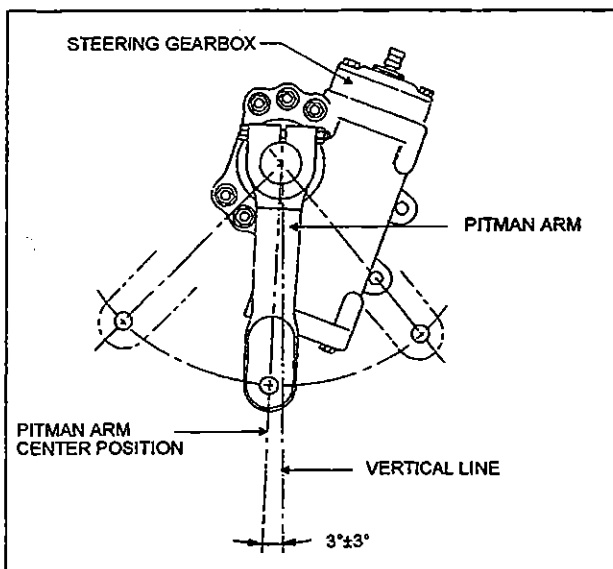

Figure 4: Pitman Arm Adjustment
To disassemble the steering column, refer to Figure 4 as a guide. The steering column has three lubrication points which must be serviced only when needed, using a good quality lithium-base grease NLGI No. 1 and 2. The lower steering column U-joint grease fitting is easily accessible through the front service compartment. The upper steering column U-joint and the steering slip joint grease fittings are accessible from the front driver's area. To access these fittings, proceed as follows:
2. Using a protractor, check the angle of the pitman arm (refer to Fig. 4 for details).